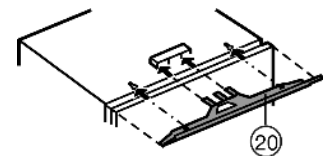

Fig. 10
- ▶ Fit the equaliser trim Fig. 10 (20) concentrically onto the appliance: Slide it into the recess and engage it in the keyholes.